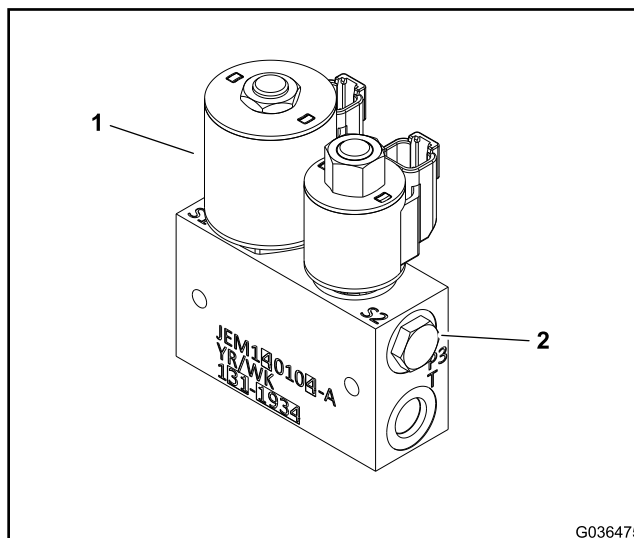

Figure 55
5. Clean the deck lift manifold around the plug in port 3 on the rear of the deck lift manifold (Figure 55). Remove the plug from the deck lift manifold port 3.